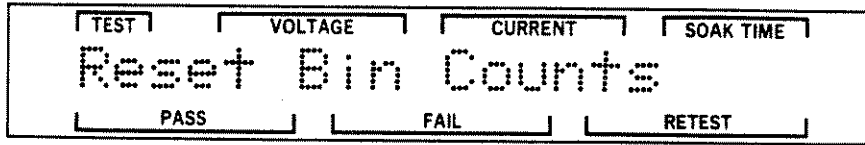

Figure 5-16. Reset Bin Count Totals Screen
STEP 4. Press the RIGHT pushbutton to enter the Detail screens. Press the UP or DOWN pushbutton until the Reset Bin Count Totals screen is displayed. Refer to Figure 5-16.